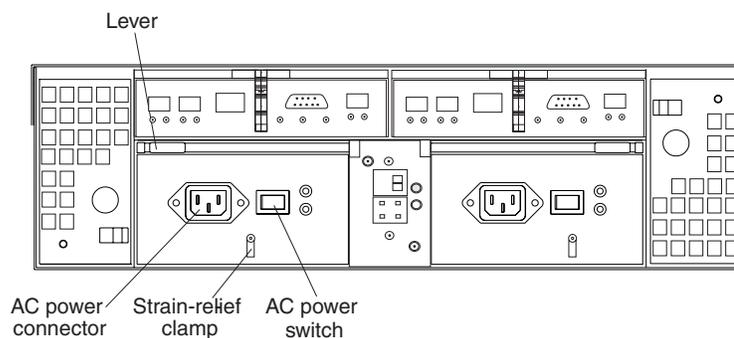

Figure 46. Lever for power supply removal
1. Turn off the ac power switch. See Figure 46.